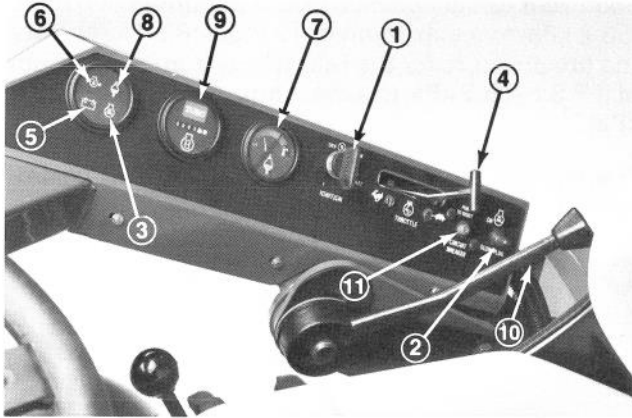

Figure 17
IGNITION KEY SWITCH (Fig. 17)
GLOW PLUG SWITCH AND INDICATOR (Fig. 17)
THROTTLE CONTROL (Fig. 17)
BATTERY CHARGING INDICATOR (Fig. 17)
ENGINE OIL PRESSURE INDICATOR (Fig. 17)
COOLANT TEMPERATURE GAUGE & INDICATOR (Fig. 17)
HOURLY METER (Fig. 17)
STEERING ARM HEIGHT SELECTOR LEVER (Fig. 17)
CIRCUIT BREAKER (Fig. 17)
4. When engine is cold, push glow plug switch to ON position (Fig. 17) and hold for suggested interval.
5. Turn engine key to START position (Fig. 17). Release key immediately when engine starts and allow it to return to ON position. Move throttle control to SLOW position.